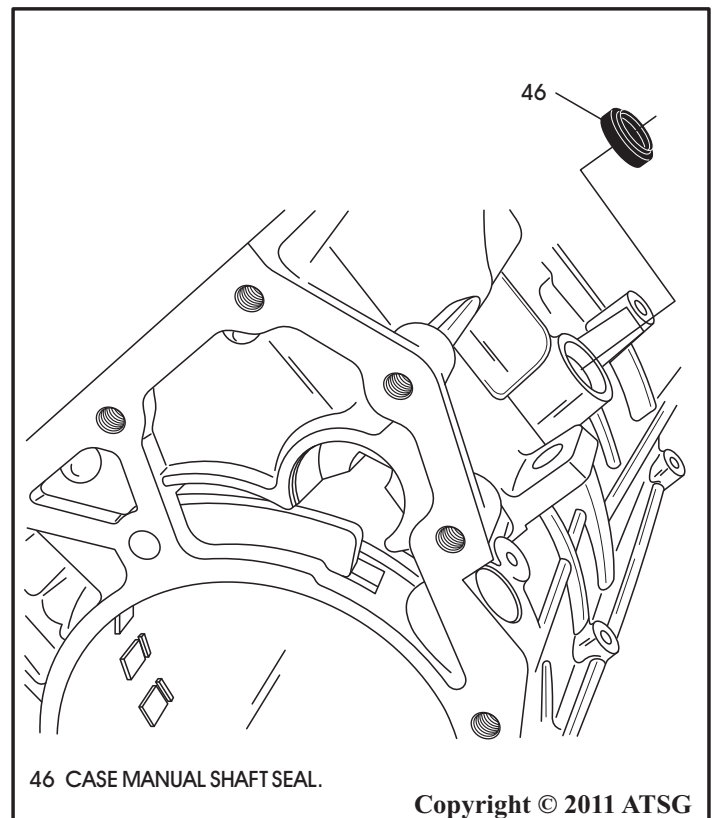

Figure 60
1. Install new case manual shaft seal into the case, as shown in Figure 60, using the proper driver.